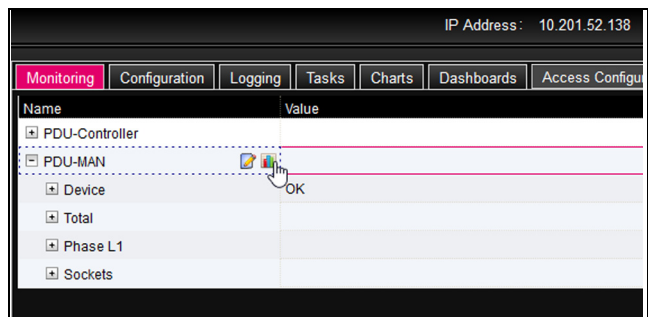

Fig. 59: "Graphic" symbol
- Click the coloured "graphic" symbol next to the "PDU-MAN" entry that resembles a stylised bar graph (fig. 59). The display switches to the graphical representation